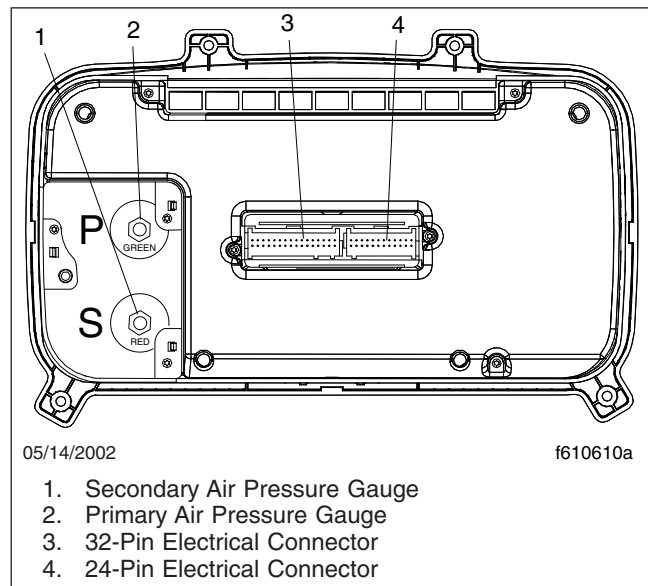

Fig. 4, ICU3, Rear View
- Disconnect the two electrical connectors from the back of the ICU. See Fig. 4.